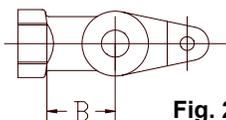

Fig. 2
Step 5 - Now, measure the length of the clevis, “B”, to be used, as shown in Fig. 2. This measurement should be taken from the centerline of the main clevis pin to the bottom of the yoke throat. Subtract this measurement from the mark placed on the rod during Step 3 and mark the rod.